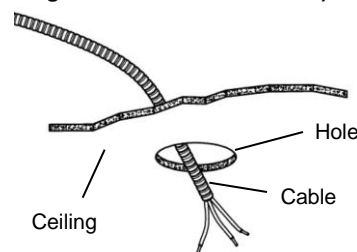

Fig. 3
3. Run armored cable (BX) or non-metallic (NM) cable (also known as Romex) from your circuit breaker or fuse panel to the 4 1/4" (10,8 cm) hole, providing 6" (15,2 cm) to 8" (20,3 cm) of slack extending below the hole. Cable having up to 12 AWG wiring may be used. (Fig. 3) **(WARNING - Use cables having wires rated 90°C or more.)**